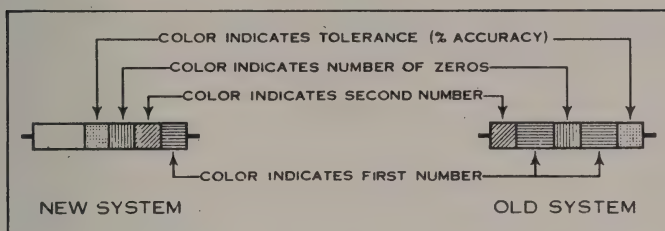

Figure 12 RMA Resistor Color Code Chart
EXAMPLE: A 50,000 ohm resistor of standard tolerance is indicated by a green ring (5), a black ring (0) and an orange ring (000) as shown in the new system of marking in Figure 12. In the old system of marking, at the right of Figure 12, the resistor would be painted green (5) with a black end (0) and an orange dot or ring in the center (000).